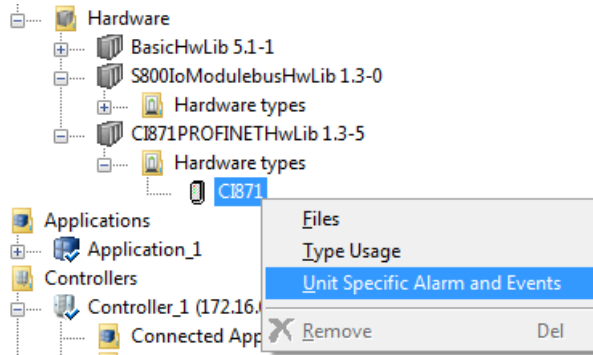

Figure 218. Accessing the Unit Specific Alarm and Events option
2. Right click the required hardware type and select **Unit Specific Alarm and Events** (see Figure 218).